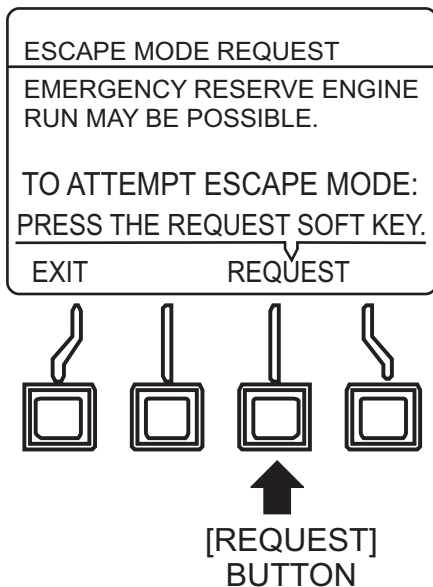

Figure 97. Escape Mode (Request Button)
6. Press the **[REQUEST]** button (Figure 97) to send "Escape Mode Request" signal to ECM.